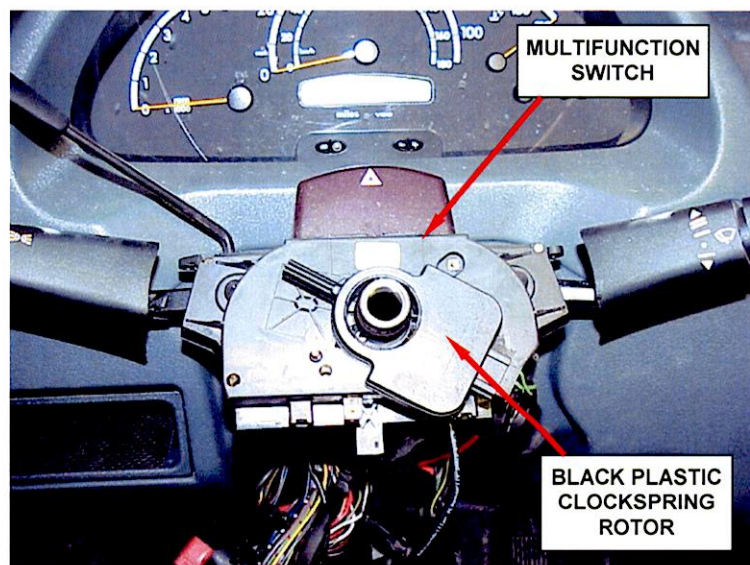

Figure 2
13. Remove the black plastic clockspring rotor (Figure 2).
14. Remove the two multifunction switch retaining screws, disconnect the electrical connectors and remove the multifunction switch (Figure 2).
30. Install the black plastic clockspring rotor (Figure 2).